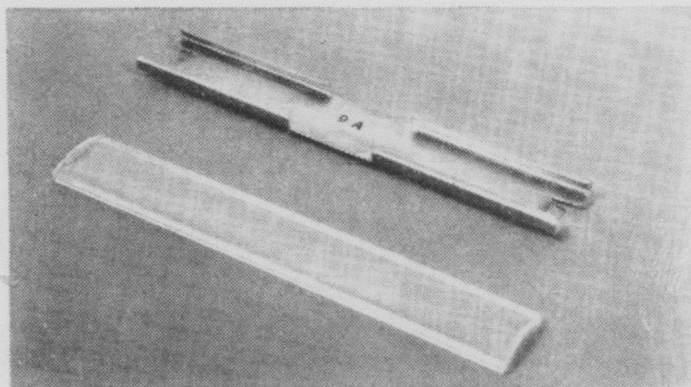
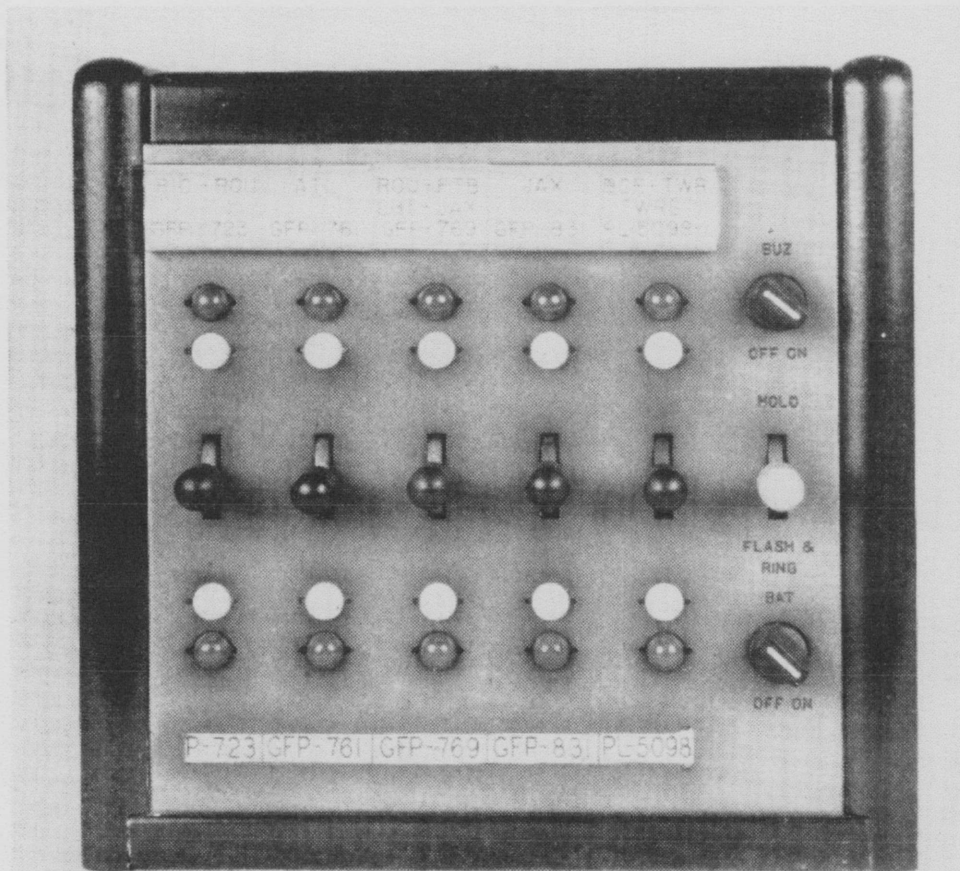

Fig. 4
Fig. 5
2.18 As shown in Fig. 4 the No. 9A card holder consists of a zinc plated frame of thin steel and a clear plastic window. It is installed on the key box, as shown in the top designation space of Fig. 5, as follows: